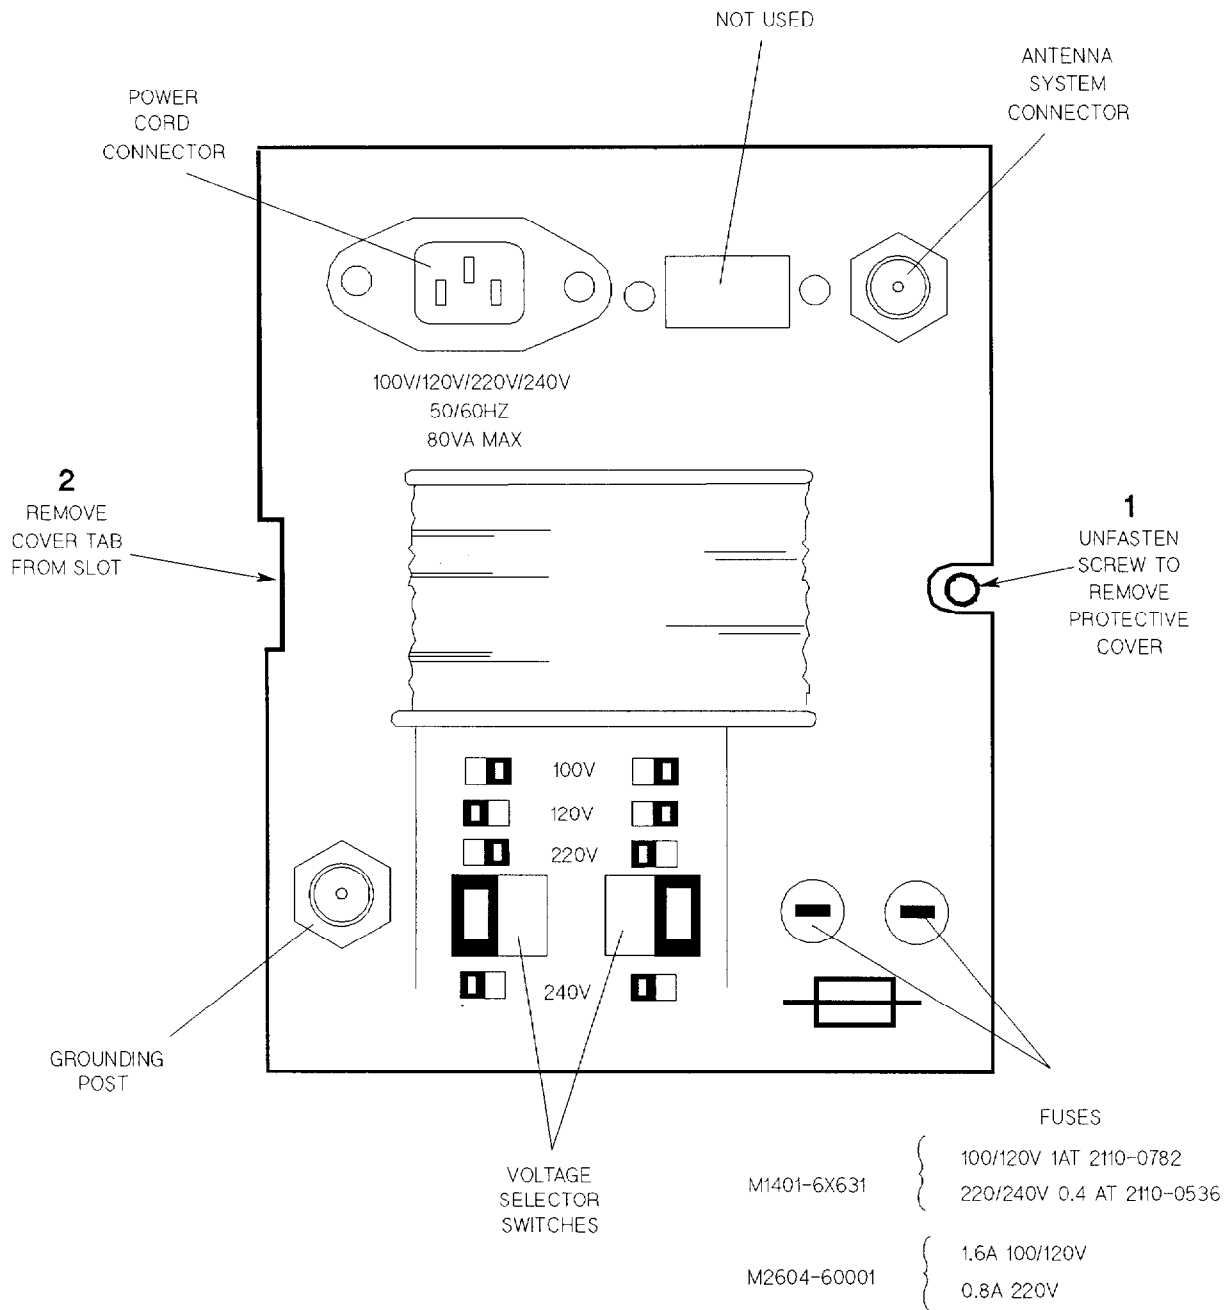

Figure 1-20. Voltage Selector and Fuse Panel
The rear panel connectors, fuses and voltage selector settings are shown in Figure 1-20.
In Figure 1-20, the switches are shown set to 120 V ac line power, for example.
1.5.6.1.2 Instrument Power Fuses. Two fuses are installed at the lower right corner of the fuse and selector panel. Remove the cover to access the fuses (Figure 1-20). The fuse values and part numbers are shown in Figure 1-20. Replace the cover after servicing the fuses.
Radio signals are connected to the Receiver Mainframe rear panel from the antenna system coaxial cabling by a standard BNC coaxial connector, which is shown in the upper right corner of Figure 1-20. It distributes signals from all channels to the receiver modules inside the receiver mainframe.